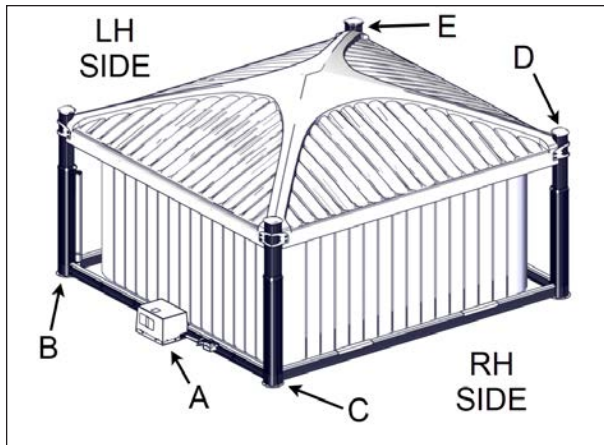

FIGURE 35: OPERATOR AND JACKS INSTALLATION
1. Install the motor frame in place, usually to the opposite side of the spa entrance see Figure 35. The standard model will need the motor frame to be on the short side of the cover,